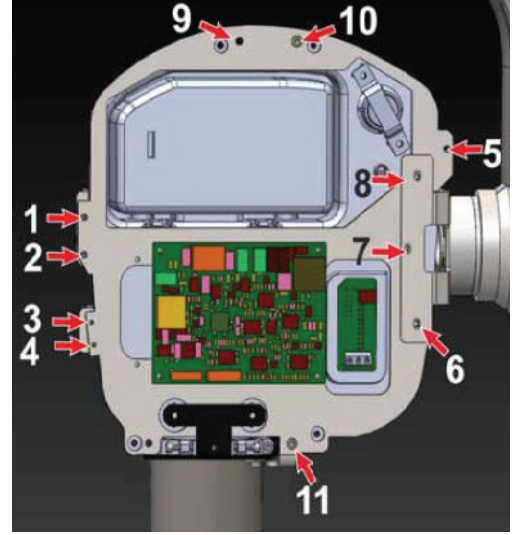

Figure 60
- Using 2.5mm allen key & 5.5mm nut driver fix 3 Hex. Soc. head cap screws(M3X16) with M3 plain washers & M3 nuts (at the locations 9 to 11 as in Figure 60) such that the screw along with M3 plain washer should be inserted from bottom and nut along with M3 plain washer should be on the top of the H V Tank.
- Fix 5 button head screws(M3X6) using 2mm allen key(at the locations 1 to 5 as in Figure 60).
- Fix 3 Hex. Soc. Head cap screws(M3X6) on the top of the clamp near Tube head arm at the locations (6 to 8 as in Figure 60) using 2.5 mm Allen key.